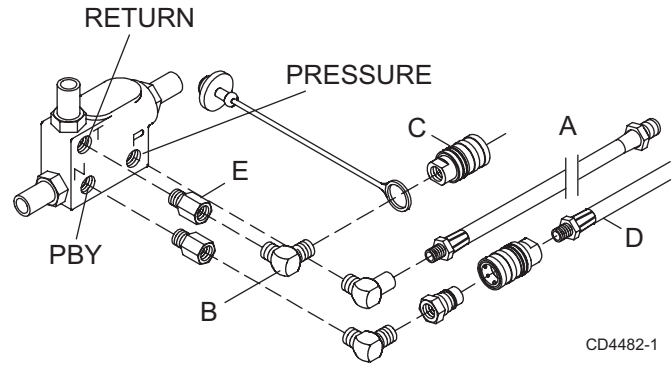

Figure 14. 475 Loader Hydraulic Fitting
1. Remove female quick coupler (C), dust plug, and elbow (B) from the RETURN port (T) on the hydraulic manifold. Leave adapter (E) in place. See Figure 14.
2. Remove hose (A) from elbow in the PRESSURE port (P) on the hydraulic manifold.
3. Disconnect hose (D) from PBYP port on the hydraulic manifold.